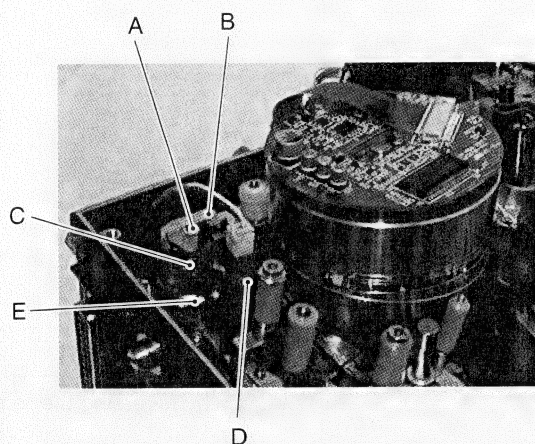

Fig. 2-7-17
7. Attach the spring E, fully erase head assembly D, spring C, head cleaner assembly B and E-washer A (see Fig. 2-7-17).